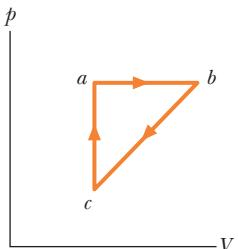

Figure 18-43 Problem 50.
- 50 GO** A lab sample of gas is taken through cycle *abca* shown in the *p*-*V* diagram of Fig. 18-43. The net work done is  $+1.2\text{ J}$ . Along path *ab*, the change in the internal energy is  $+3.0\text{ J}$  and the magnitude of the work done is  $5.0\text{ J}$ . Along path *ca*, the energy transferred to the gas as heat is  $+2.5\text{ J}$ . How much energy is transferred as heat along (a) path *ab* and (b) path *bc*?